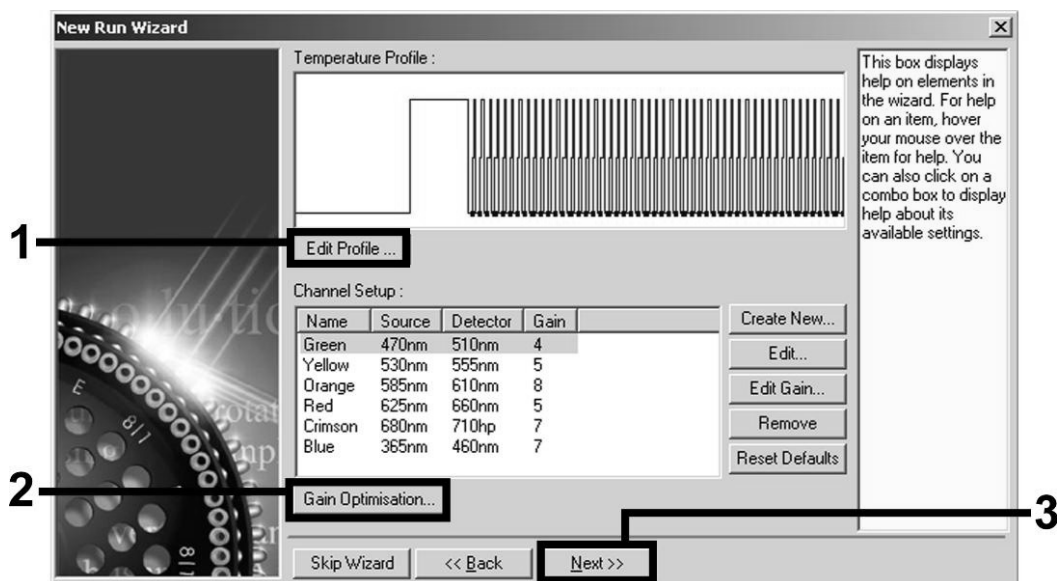

Figure 3. Editing the profile. Screenshot for the *artus* HI Virus-1 QS-RGQ Kit is shown as an example.
- Click the “Edit Profile” button in the next “New Run Wizard” dialog box (Figure 3). Program the appropriate temperature profile for the relevant *artus* QS-RGQ Kit as shown in Table 1, using the example screenshots in Figures 3–6 as a guide (screenshots for the *artus* HI Virus-1 QS-RGQ Kit are shown as examples).
6. The detection range of the fluorescence channels has to be determined according to the fluorescence intensities in the PCR tubes. Click "Gain Optimisation" in the "New Run Wizard" dialog box (see Figure 3) to open the "Auto-Gain Optimisation Setup" dialog box. Set the calibration temperature to match the annealing temperature of the amplification program, and adjust the fluorescence channel sensitivities (Table 2 and example screenshot in Figure 7).